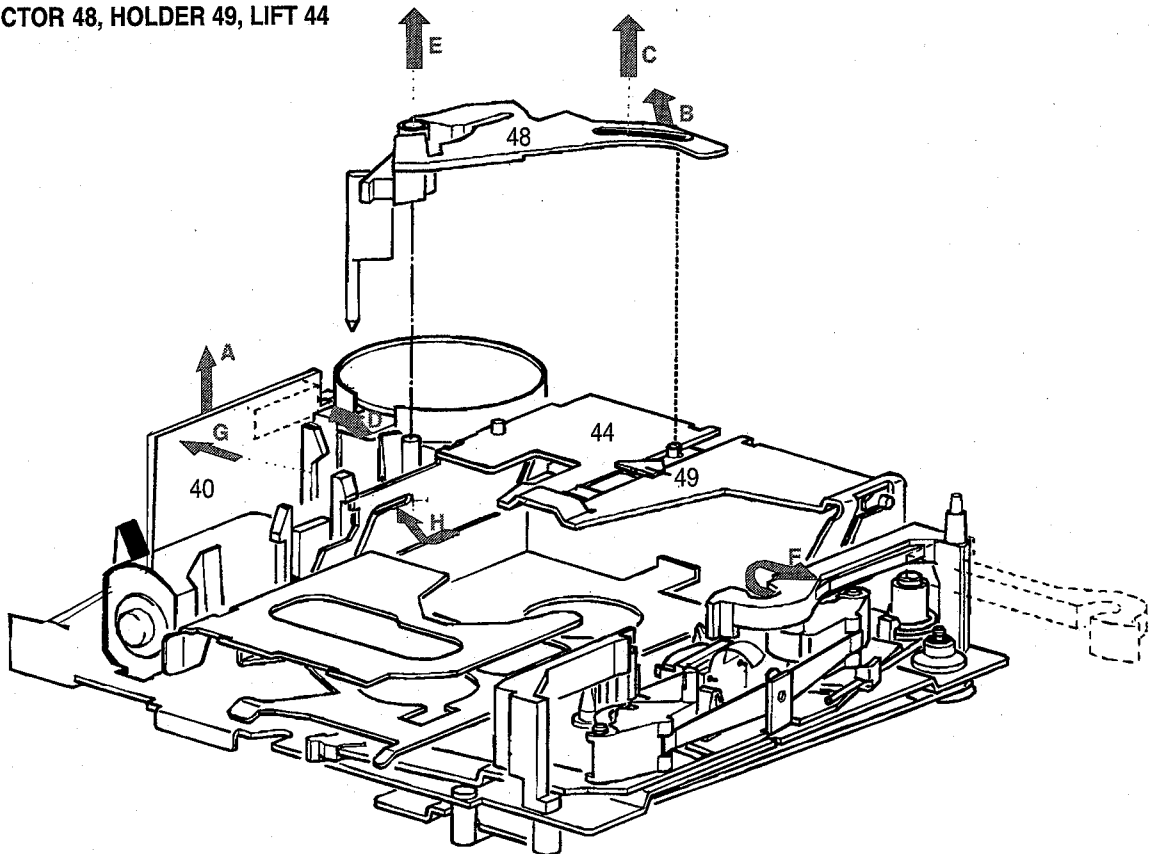

Fig. 1
- 1.2 Lift in play position - unclamp cassette holder (49) from eject lever (48) with a left-upwards motion acc. fig.1-B
- 1.3 Lift in eject position - push plastic hook (fig.1-D) and pull out eject lever, remember position of ejector spring (55) and switching pin (54) for re-assembly later on
- 1.4 Release fixation lever (fig.1-F) by clicking out in left direction and then turn to the right
- 1.5 Lift in mid position - take out carrier and lift by releasing plastic hooks at the left (fig.1-G)